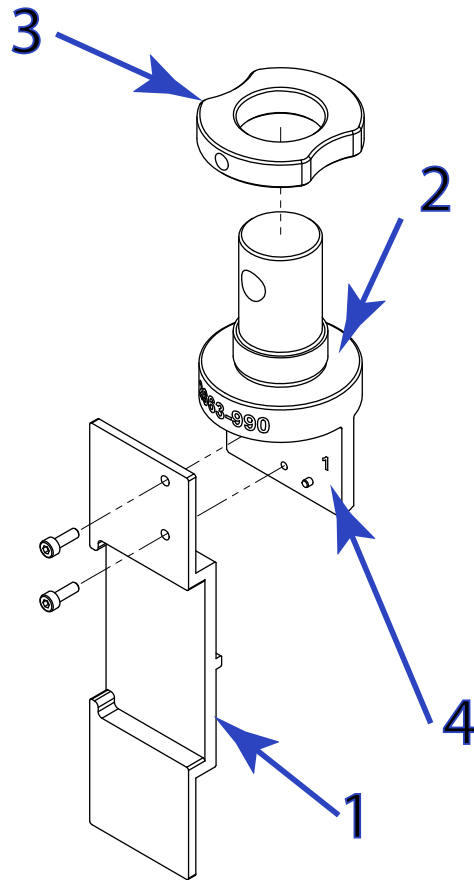

Figure 39. Calibration plate holder installed onto clevis adapter
Legend for Figure 39
1. Attach the calibration plate holder to the clevis adapter as shown in Figure 39 on page 72.
Figure 39 on page 72 shows Side 1 of the adapter facing the camera, which is correct for tensile testing of specimens.